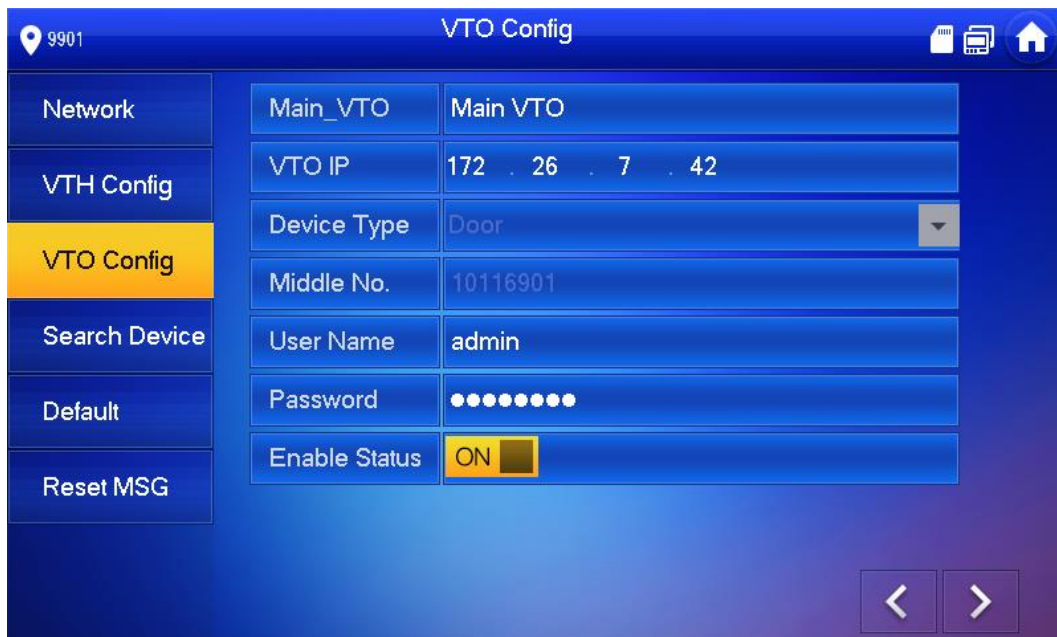

Figure 5-15
The system displays “VTO Config” interface, as shown in Figure 5-15.
1. In Figure 5-15, enter main VTO name, VTO IP, “User Name” and “Password”.